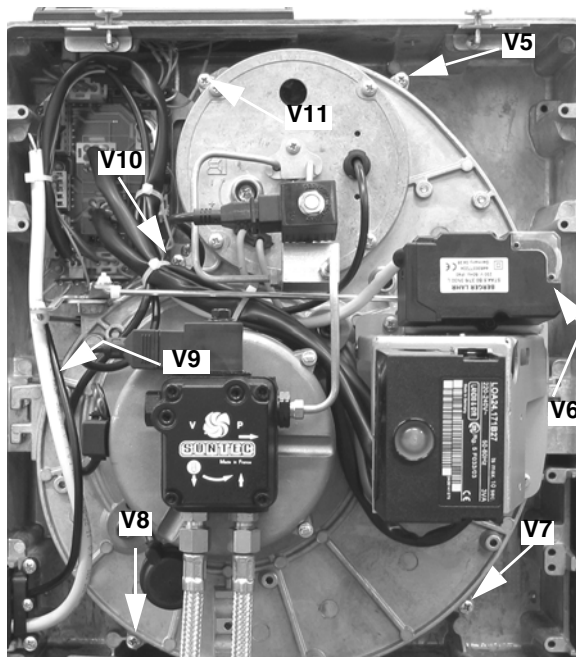

Fig. 44
- Remove the 7 screws **V5 - V11** which fasten the components plate (Fig. 44).
- Reassemble burner components plate and tighten the 6 screws **V5 - V11** (Fig. 44).